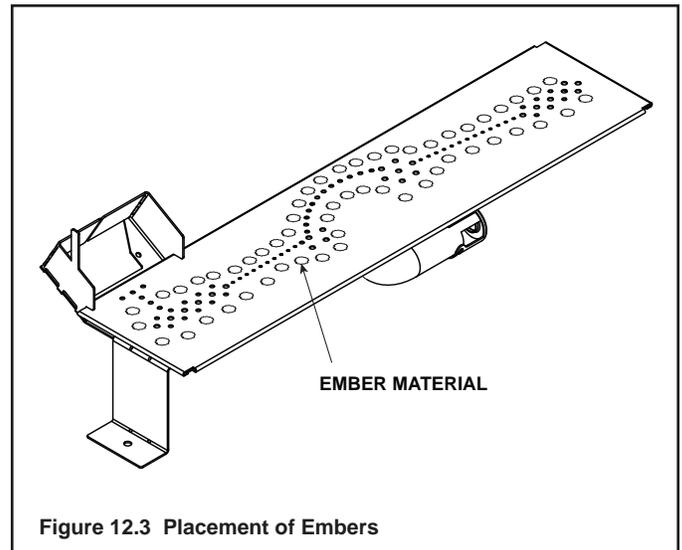

Figure 12.3 Placement of Embers
- When placing Glowing Embers® onto the burner care should be taken so that the ports are not covered. Place the dime-size ember pieces just in front of the port trail, but not on or in between the ports (see Figure 12.3). Failure to follow this procedure will likely cause lighting and sooting problems.